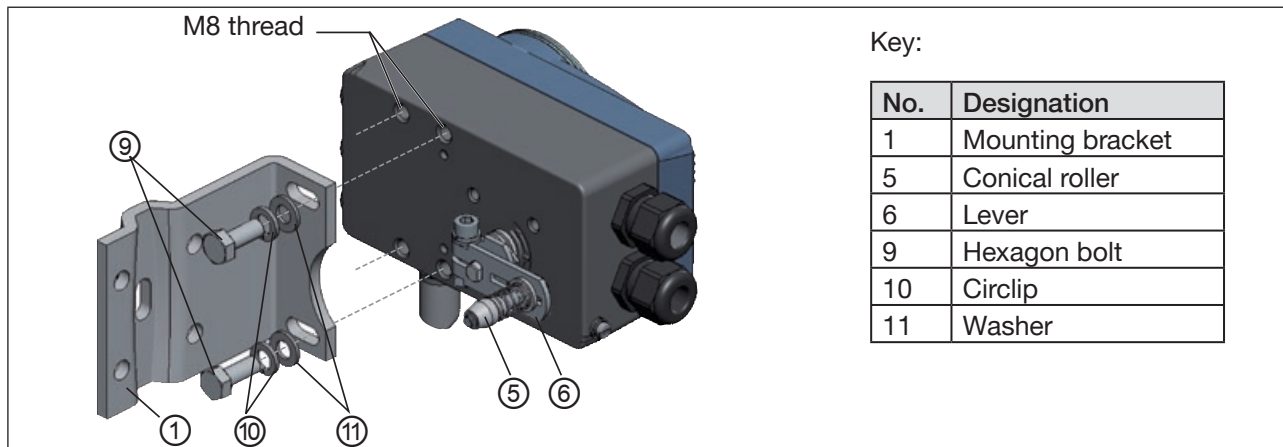

Figure 12: Attaching the mounting bracket
→ Attach mounting bracket ① with hexagon bolts ⑨, circlips ⑩ and washers ⑪ to the rear side of Type 8792/8793 (see “Figure 12: Attaching the mounting bracket”).
The conical roller on the lever of the position sensor must be able to move freely in the hoop (see “Figure 12: Attaching the mounting bracket”) along the entire stroke range of the actuator. The lever position should be almost horizontally when the stroke is 50% (see chapter “11.2.4 Aligning the lever mechanism”).